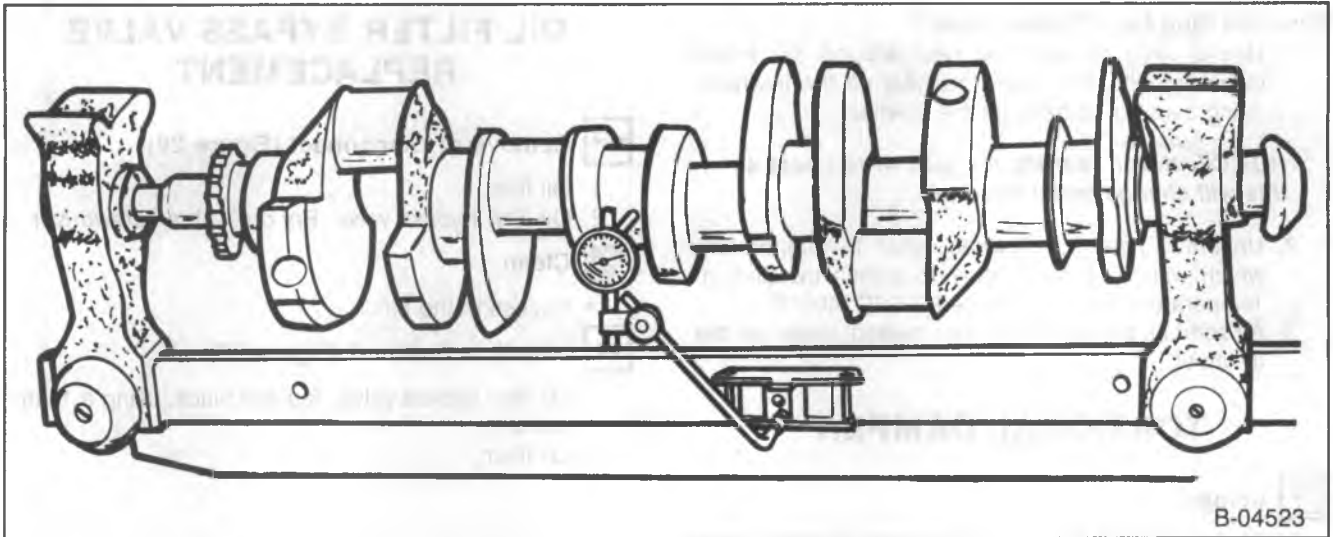

Figure 28—Checking Crankshaft Run-Out
- Crankshaft run-out (figure 28).